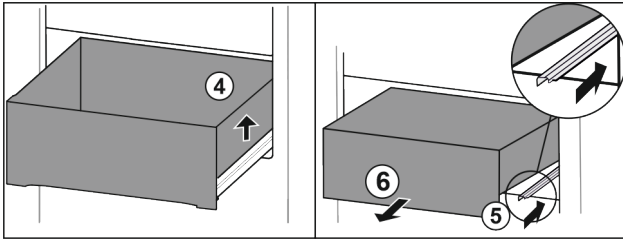

Fig. 75
- ▶ Lift drawer on the right. Fig. 75 (4)
- ▶ Slide in right rail. Fig. 75 (5)
- ▶ Remove drawer to the front. Fig. 75 (6)